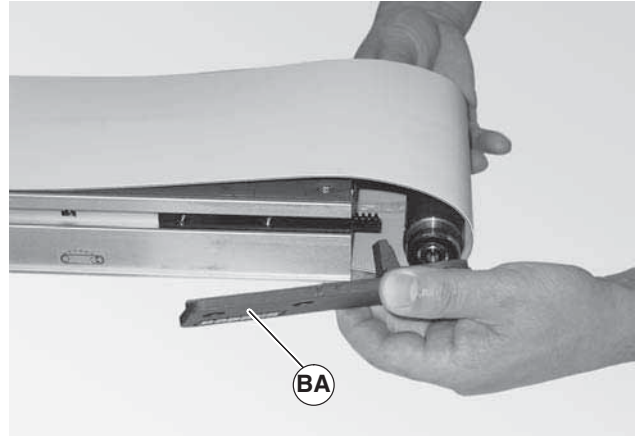

Figure 40
2. Place the head plate (Figure 40, item BA) and attach the head plate to the conveyor frame with the two (2) screws removed and hand tighten.